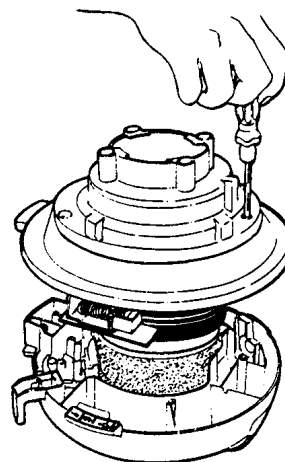

Fig.11
1. Separate the motor Body cover & Upper Body. (Fig.11)
2. Remove motor support rubber (Front and Rear) & noise suppressor. (Fig.11)